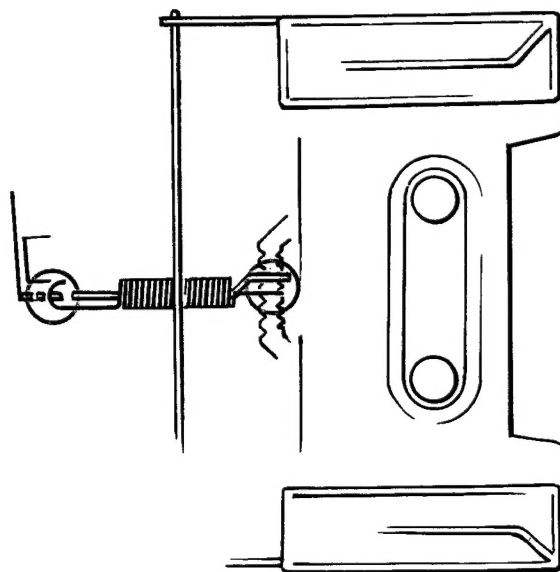

Fig. 3.7 Spring for headbridge
4. Before removing the headbridge spring, take note of the notch occupied by the spring, see Figure 3.7. When re-assembling put the spring back into the same notch.